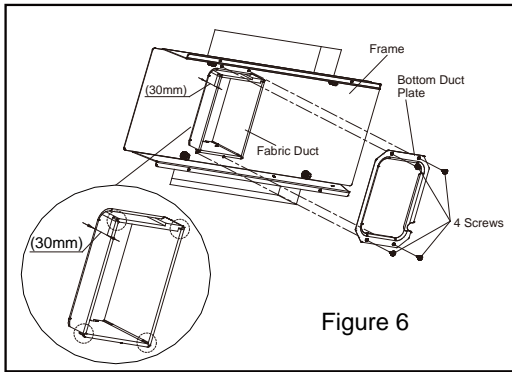

Figure 6
6) Set the fabric air duct into the duct opening of installation plate sub-assy and cut off four corner of fabric air duct. Because the thickness of vehicle top is different, the distance between the opening and the installation plate sub-assy is shown in figure 6.
7) Fasten each side of the fabric duct with fitting the bottom duct plate to the ceiling assembly frame with 4 screws (see Figure 6). Trim any excess fabric that may extend beyond edge of bottom duct plate.